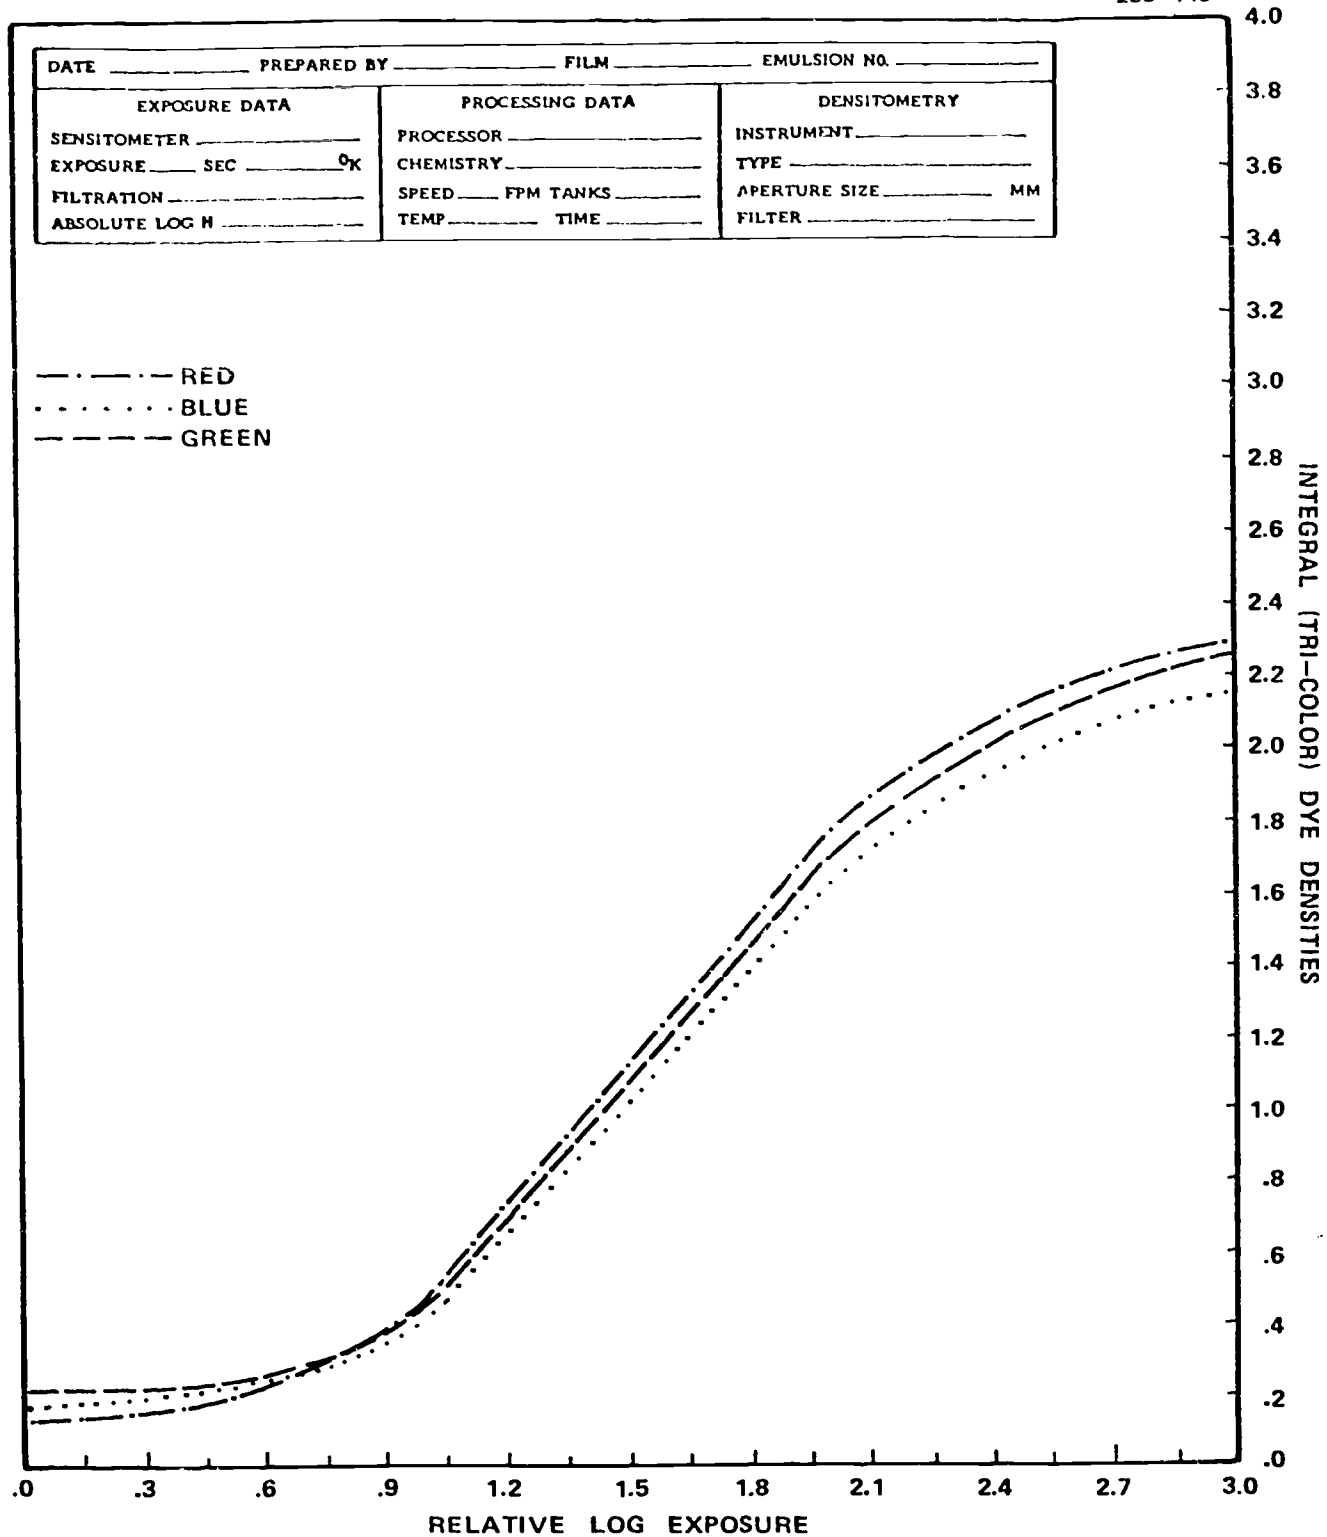
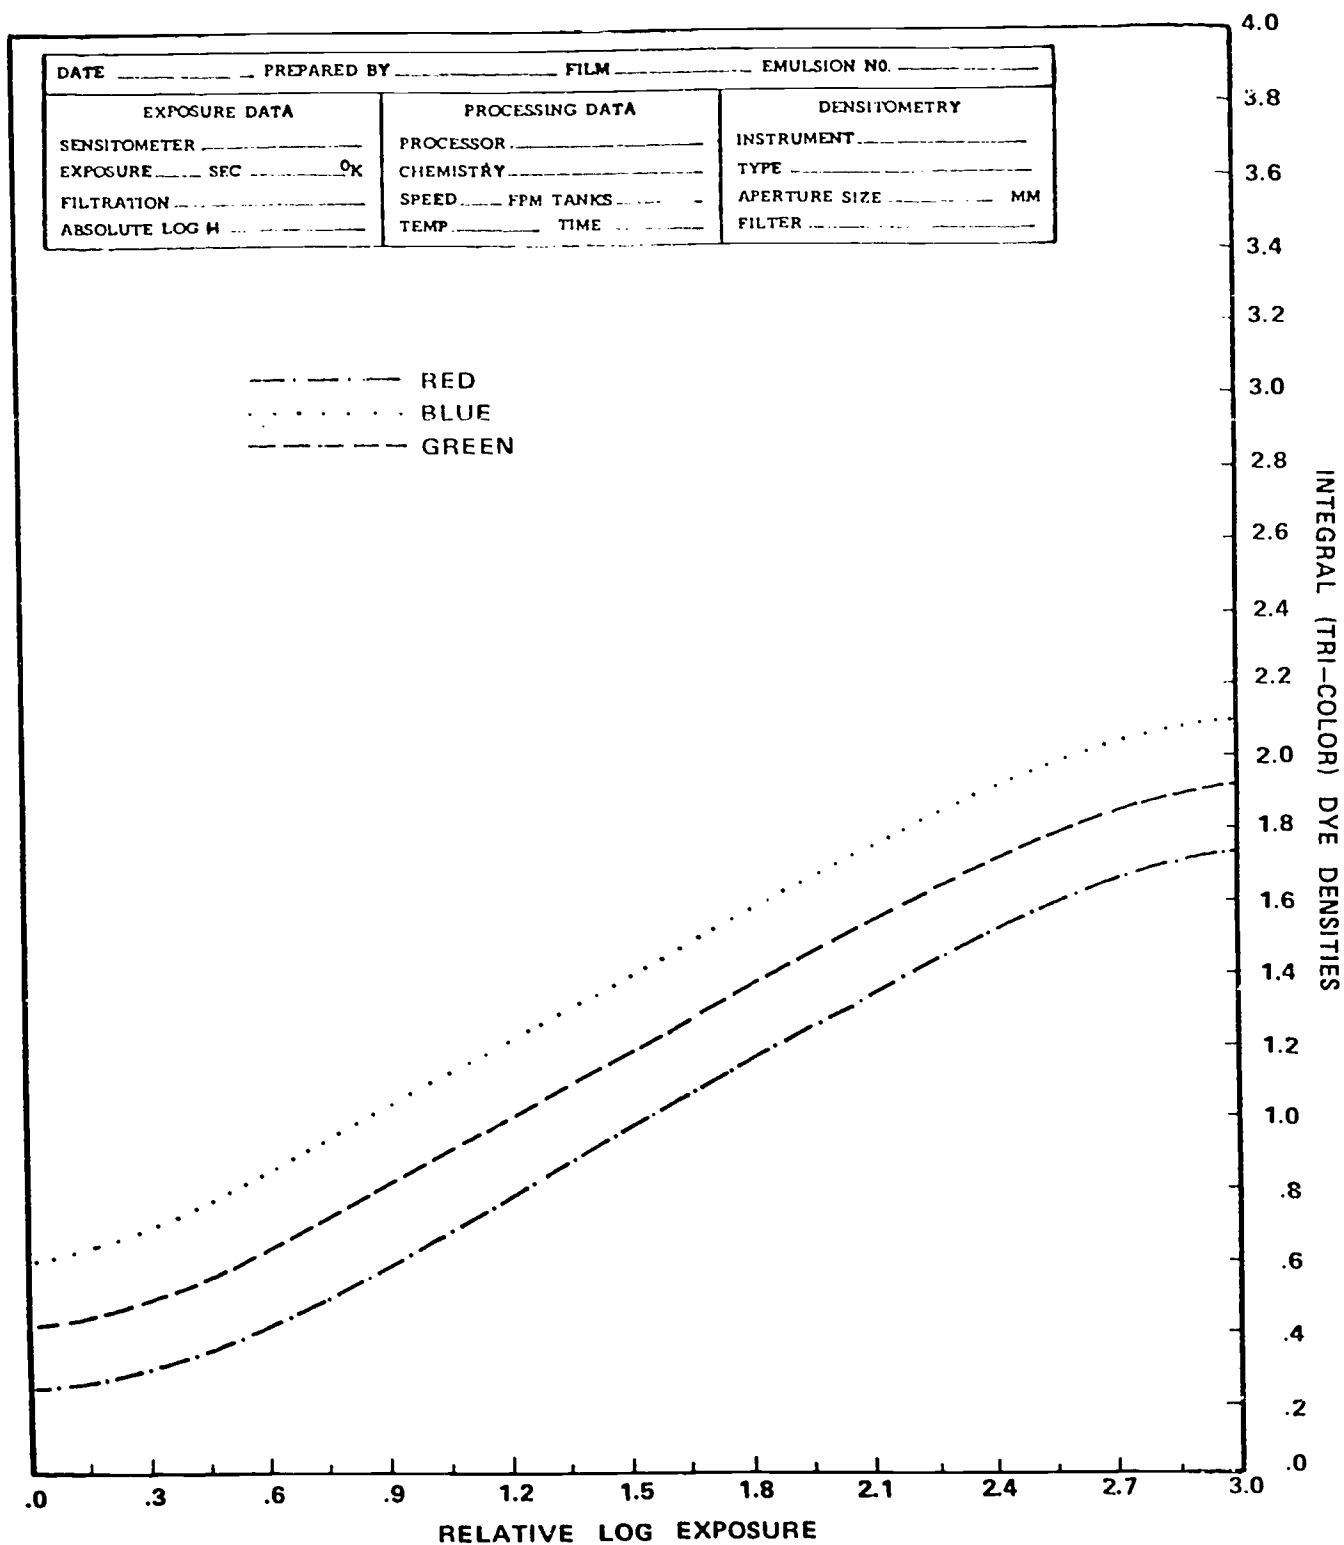
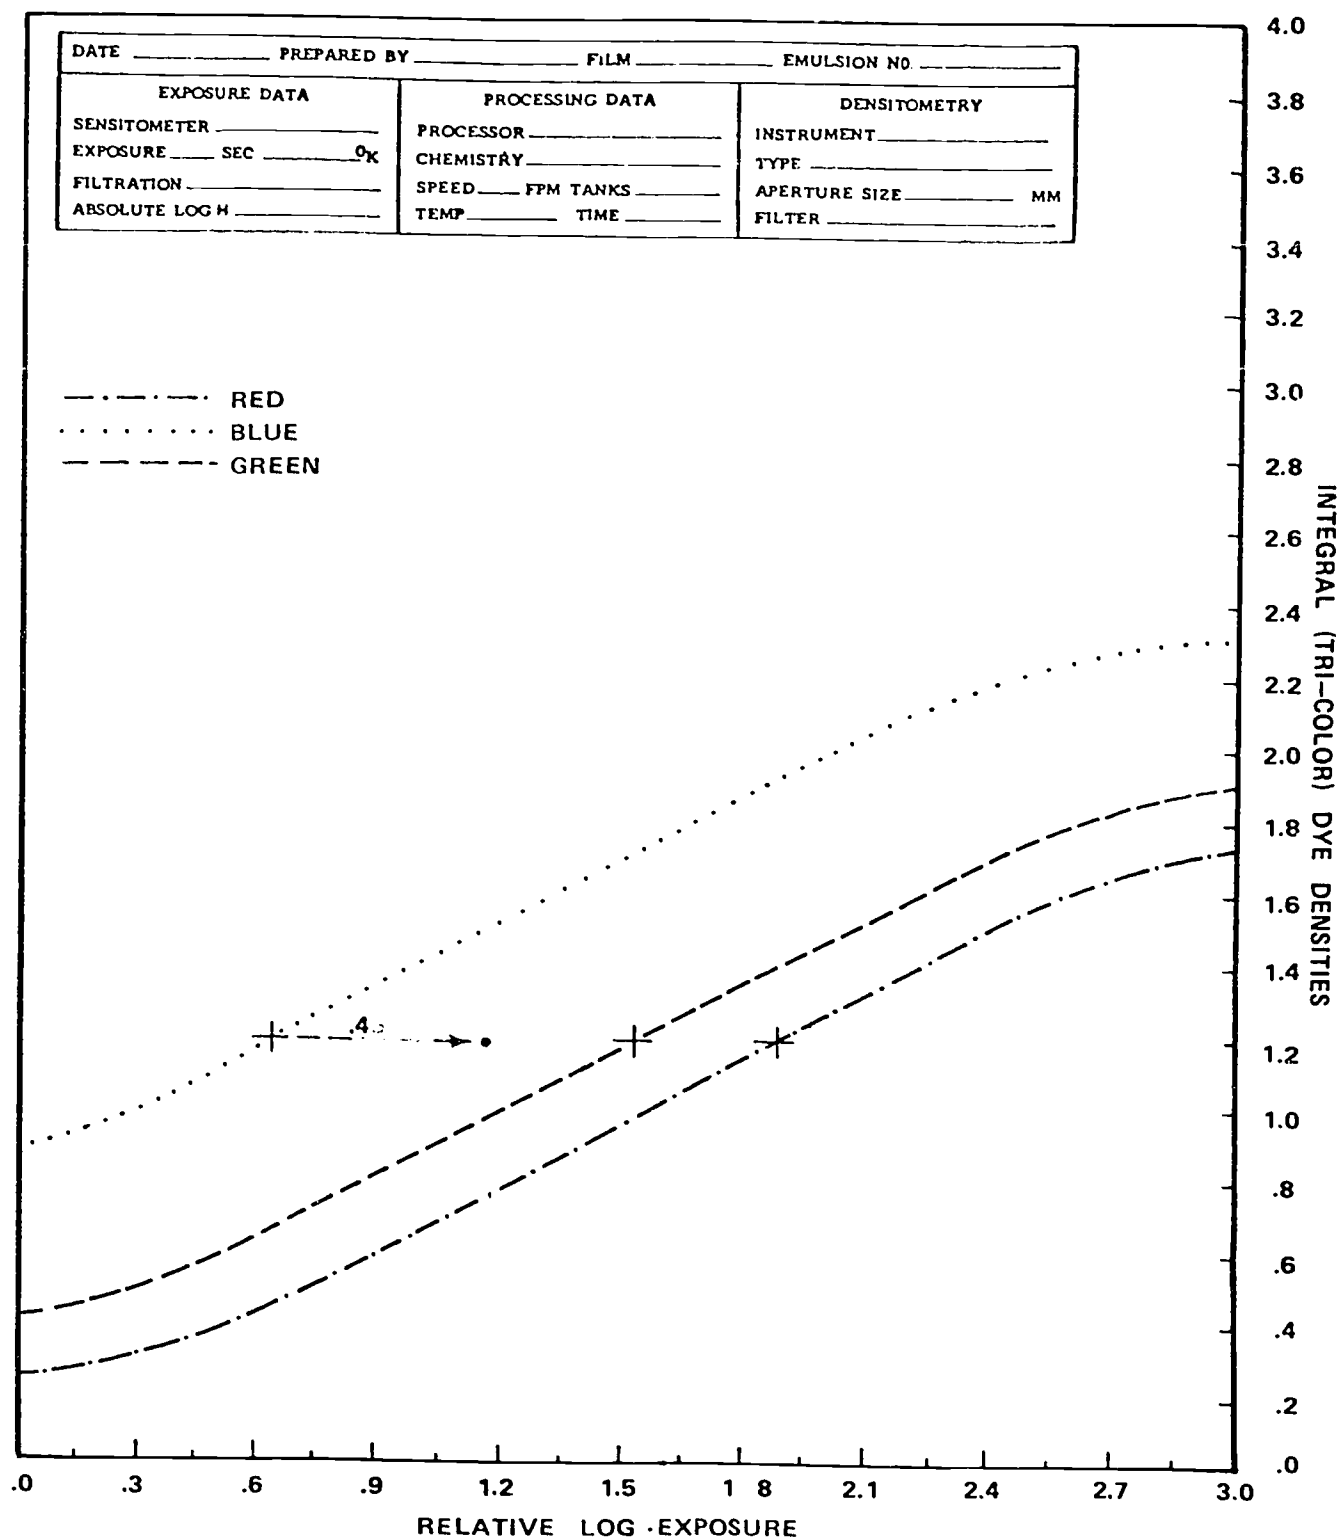

Figure 5-13. A typical family of curves from an aerial color negative film, type 2445.
Figure 5-14. Sensitometric curves of a masked color negative film.
Figure 5-15. An out-of-balance masked color negative film.
Since the final imagery of this material is a negative form of the original scene, the characteristic curves of the sensitometric test are displayed in the same as in the black-and-white negative evaluations. That is, the characteristic curves are plotted in such manner as to show the toe section to the left side of the graph in relation to the shoulder area of the curve, as seen in figure 5-13. As the exposure increases through the various steps of the original stepwedge, the density steps of the curve increase. Thus, the characteristic curve of negative material is displayed so produced density is always increased from left to right along the graph.
With unmasked aerial film, such as Type 2445, the three tricolor curves should coincide as much as possible over their entire length, as noted in figure 5-13. However, with color negative films utilizing the masking dye within their emulsions, it is not recommended that the family of curves be superimposed. In fact, with the yellow and reddish color couplers in this material, it is impossible to overlap all three curves and still maintain correct color balance. Therefore, with this film, all that is required is that the curves be essentially parallel (approximately of equal contrast) and about equally displaced laterally. Any further color corrections can easily be made during the printing stage of the process. Figure 5-14 illustrates a family of curves of a typical color negative film which has masking dyes incorporated within its layers. Figure 5-15 indicates the film has an out-of-balance blue density (D_b) curve. If this film were to be exposed in the camera system without color corrections, its top emulsion would have a higher sensitivity to blue light, which would cause the generation of too much yellow dye in this layer as compared to the dye produced in the other two layers. Therefore, the presence of the excess yellow dye can be attributed to the high densities produced by blue light.
In correcting the situation shown in figure 5-15 the D_b curve can be brought into balance by reducing the exposure to blue light. In the "subtractive" process, such a change involves placing a blue-absorbing (yellow) filter into the system. To determine the proper amount of yellow filtration that is required to bring the D_b curve parallel and about equally displaced laterally to the other two curves, the procedures are simple: (1) Locate, along the density axis of the graph, a point that is represented on the straight line (or very close) on all three curves; (2) horizontally from this point, determine the log increments between the D_b and D_r curves and place a point to the left of the D_b of the same increment units along the horizontal or log H axis; and (3) once this point is established, the distance between it and the D_b curve denotes the amount of yellow filtration that is required. From the example, the arrow indicates a length of 0.45 log H units, thus a total of 0.45 yellow filtration must be added. To hold the amount of filters to a minimum within the system, a CC40Y and CC05Y are utilized. Again, the ND factors of these two filters must be considered if the overall exposure is to be maintained for the film. Figure 5-14 shows the film in proper balance after the above filter corrections.